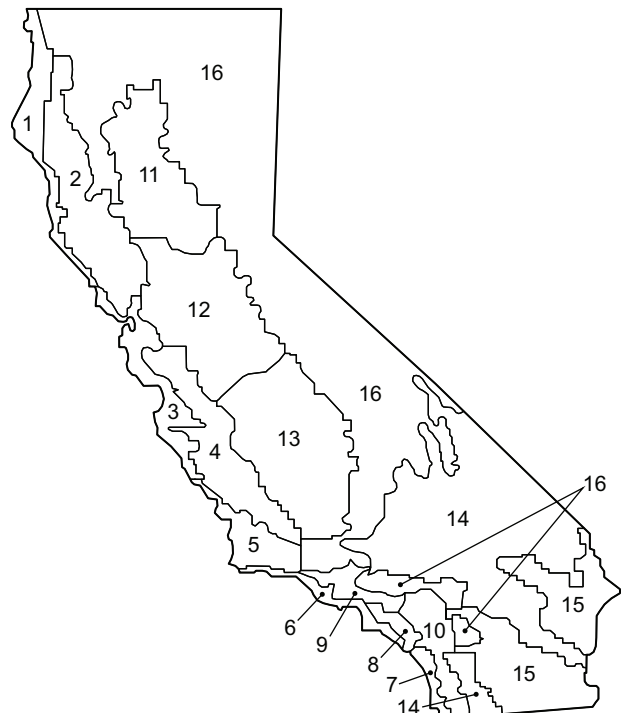

Fig. 78 — California Title 24 Zones
b. See Fig. 78 for map of California Title 24 zones.